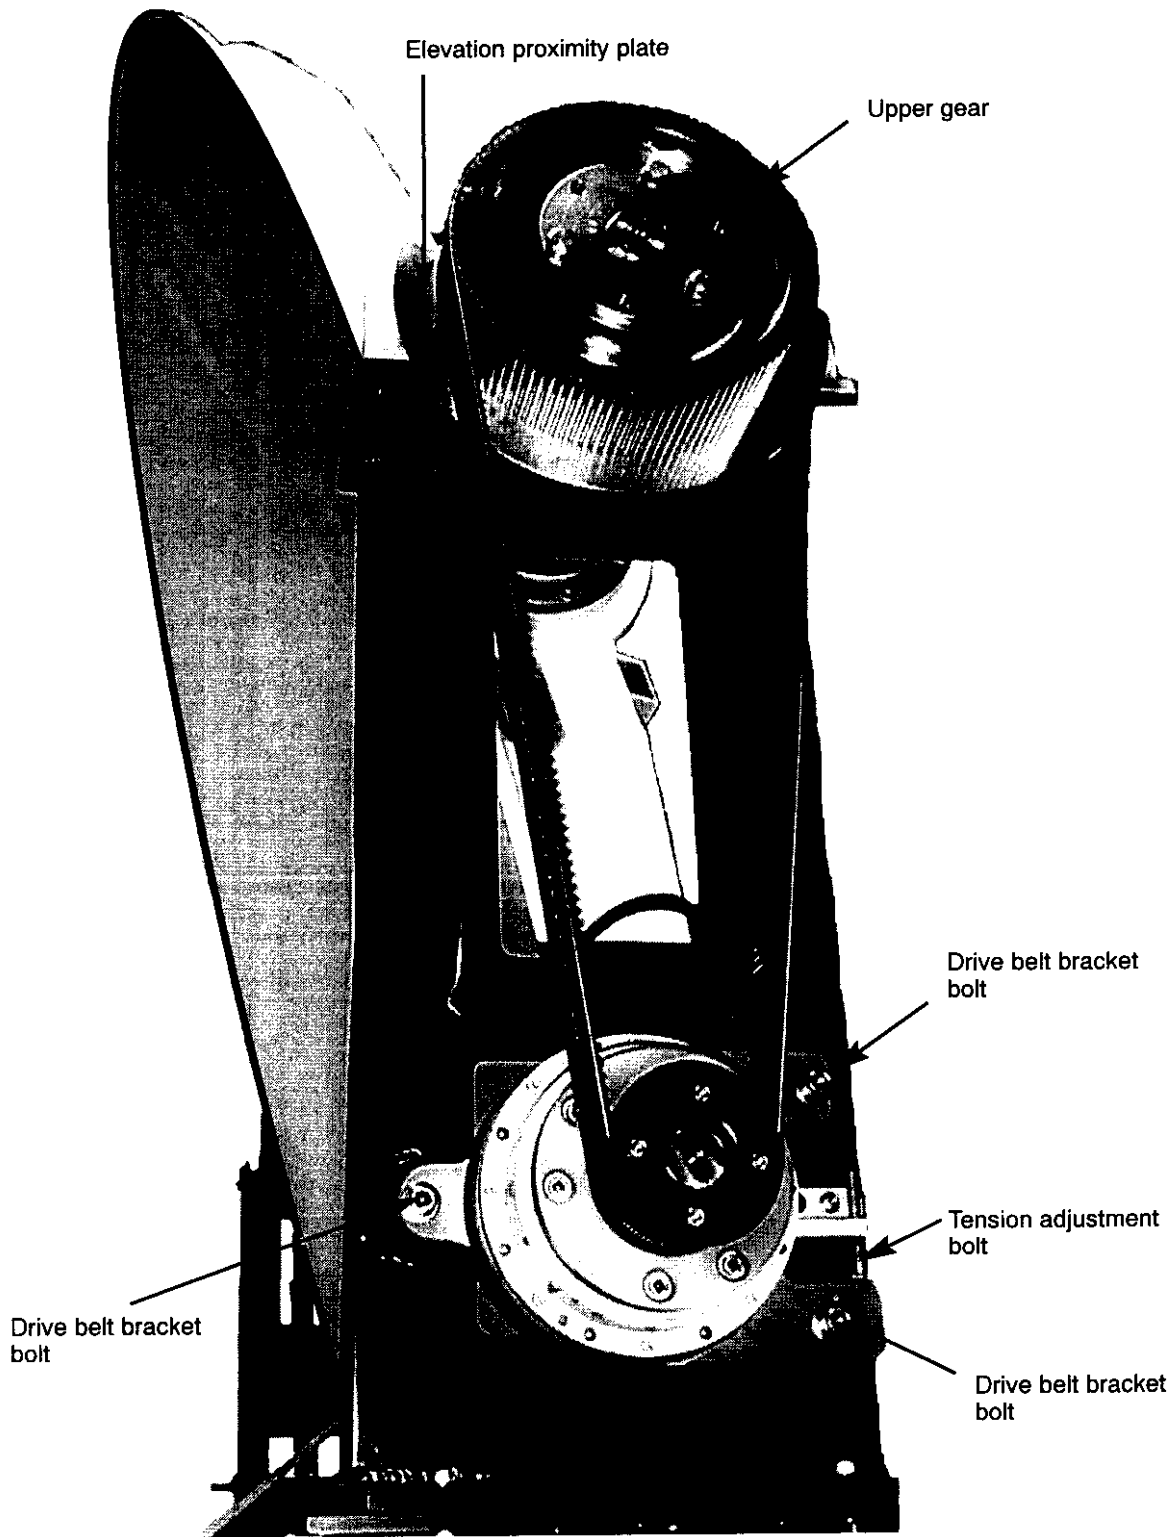

Figure 21. Elevation Drive Arm
- c. Slightly loosen the bolts on the elevation drive belt tension adjustment bracket (refer to Figure 21).